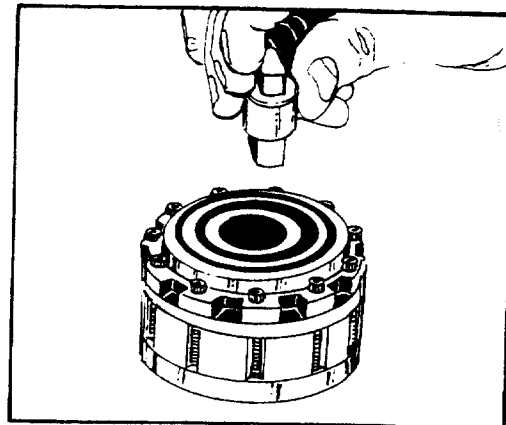

FIGURE 67.
20. Insert large tang of the drive link (16) into the slot in the rotor (24). See figure 67.
- CAUTION:** An incorrect (reversed) assembly of the drive link will prohibit the assembly of the hex drive (10) in step 35.